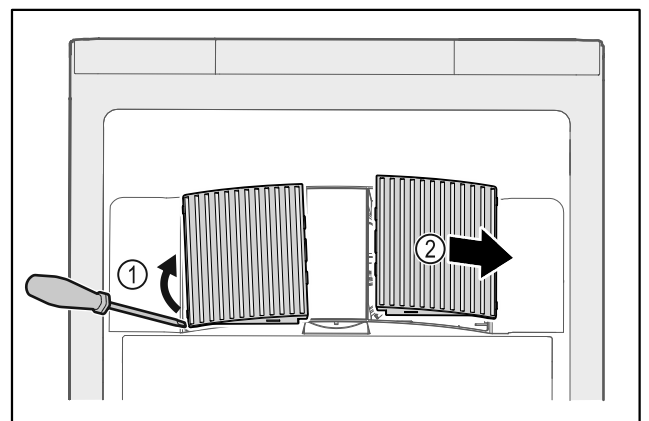

Fig. 59
- Carefully lever out fan covers from the side Fig. 59 (1) and remove towards the front Fig. 59 (2).